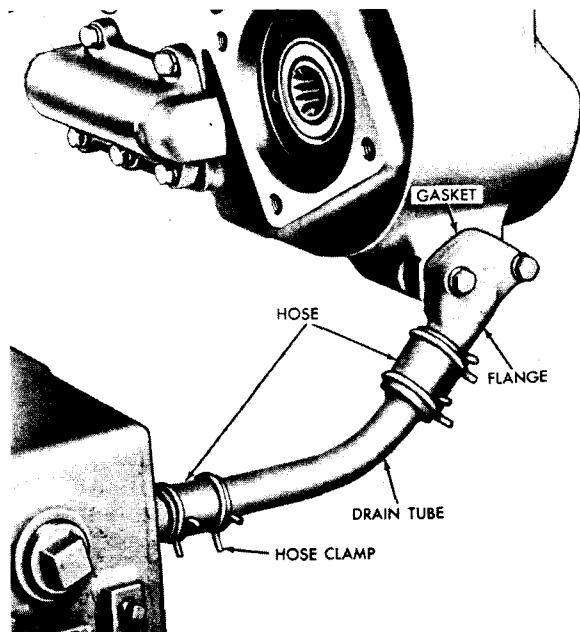

Fig. V-5. Converter housing drain components
(5) Remove two bolts and lock washers which retain the converter housing drain tube flange. Remove the rear hose clamp. Remove the flange, hoses, drain tube and remaining clamps as a unit. Remove the flange gasket. Refer to fig. V-5.